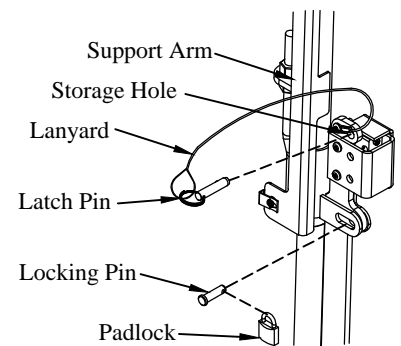

Figure 24: Platform lock.
11. **Insert** the latch pin into the storage hole (Figure 24).
12. **Insert** the locking pin through the hole in the passenger side support arm (Figure 24).
13. **Lock** the padlock through the hole in the locking pin (Figure 24).